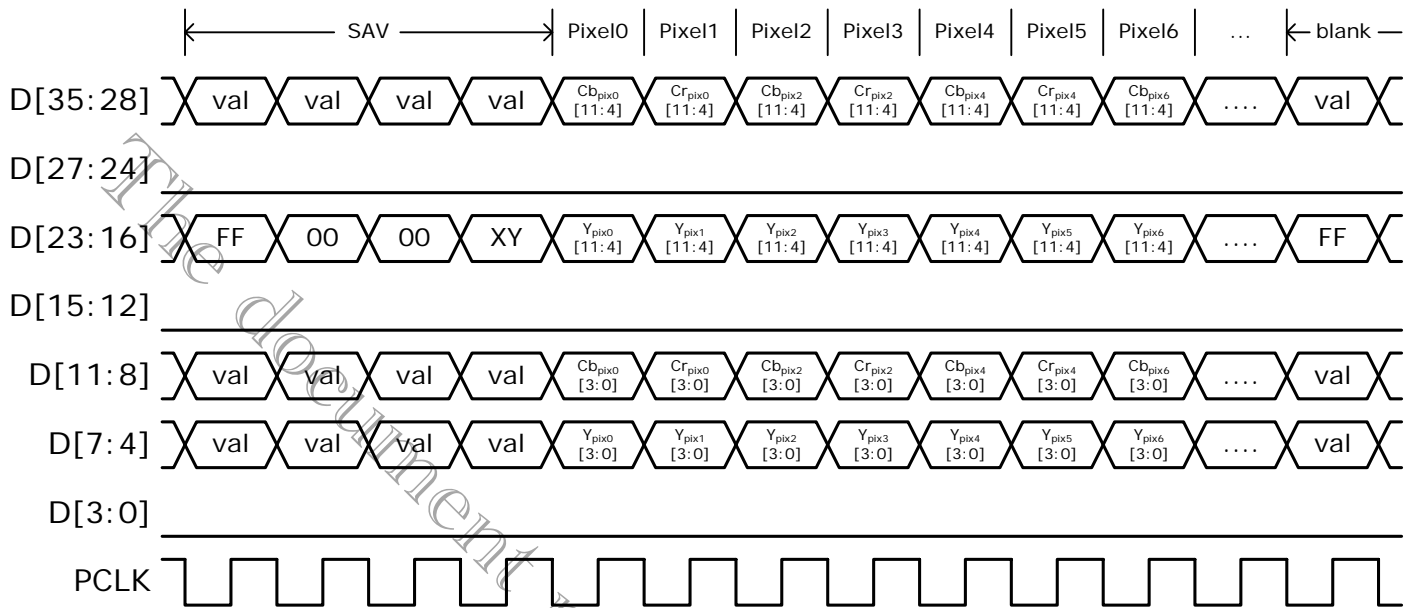
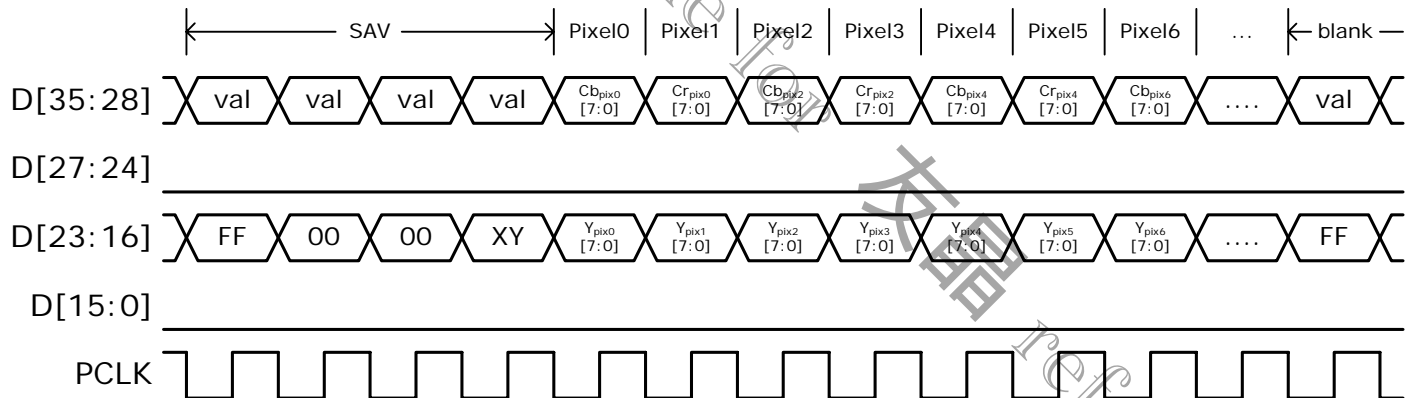

Figure 9. 24-bit YCbCr 4:2:2 with embedded syncs
Figure 10. 16-bit YCbCr 4:2:2 with embedded syncs
i.e. embedded. Bus width could be 16-bit, 20-bit or 24-bit. Figure 9 and Figure 10 give two timing examples